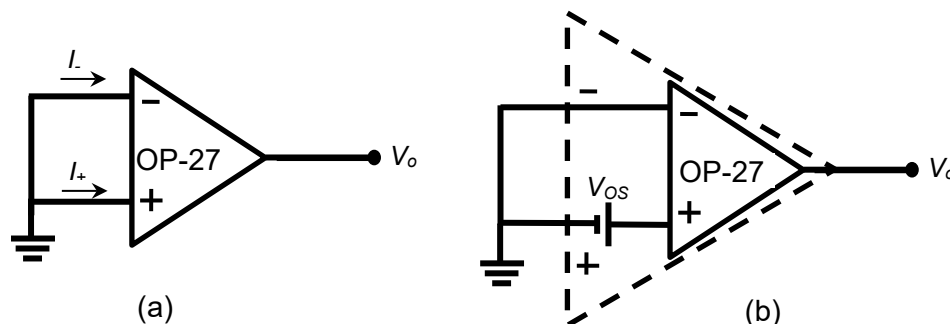
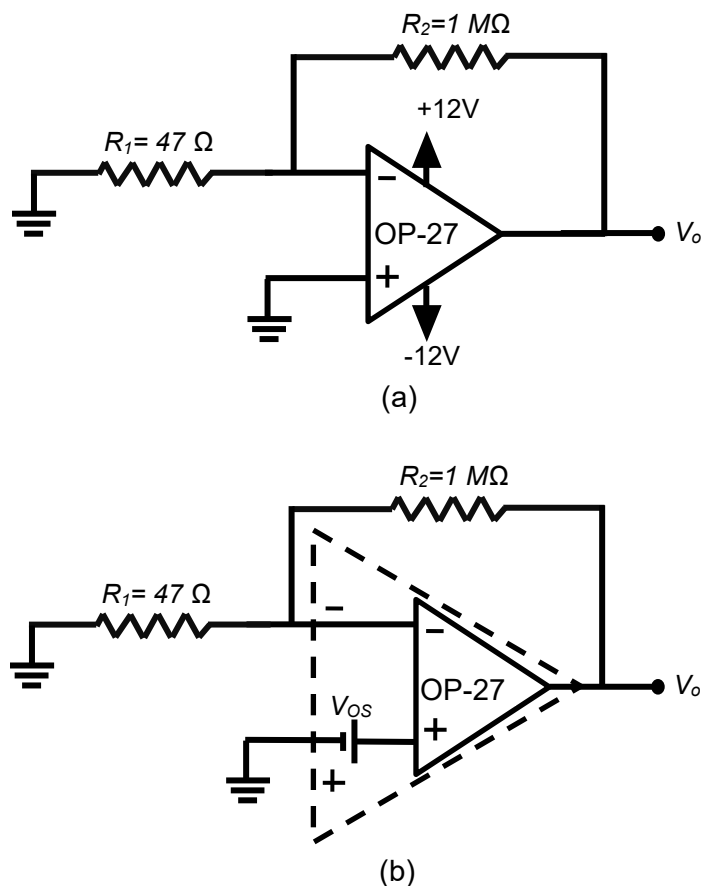

Figure 3. (a) Both inputs are grounded. (b) Modeling the mismatch as an input offset voltage.
Figure 4. (a) The circuit used to estimate the input offset voltage. (b) The circuit in (a) is modeled with the input offset voltage at the non-inverting input.
Ideal op-amps require the inverting and non-inverting inputs to be perfectly matched, so that the output will be zero when the two inputs are equal. For example, the op-amp shown in Figure 3(a) has the two inputs grounded. Hence V_o should be $V_o = A(V_+ - V_-) = 0\text{V}$. In reality, the inputs are mismatched, and the output will not be zero. To model the mismatch imperfection, we assume the op-amp has an internal dc voltage at the non-inverting terminal that causes the output voltage to be non-zero as shown in Figure 3(b). Because the op-amp has very high differential gain, the output voltage will be saturated to one rail voltage. The offset input voltage is usually so small that it cannot be measured directly, so a testing circuit is used instead. The circuit shown in Figure 4 will be used to estimate the input offset voltage of the OP27 op-amp.
Another DC imperfection of the op-amp is that the input currents to the inverting input (I_-) and the non-inverting input (I_+) are non-zero as shown in Figure 3 (a). The data sheet of a typical op-amp includes two type of DC currents, the input bias current (I_B) and the input offset current (I_{OS}), which are defined as
- For the circuit shown in figure 4(b), estimate the typical and maximum output voltage due to the input offset voltage V_{os} .
1. Refer to the circuit in Figure 4(a). Record the resistance values for R_1 and R_2 , and then estimate the gain according to the recorded values. Connect the circuit as shown in Figure 4(a). Measure the output voltage using the DMM.
1. Diagram of Figure 4(a). (1 pt)